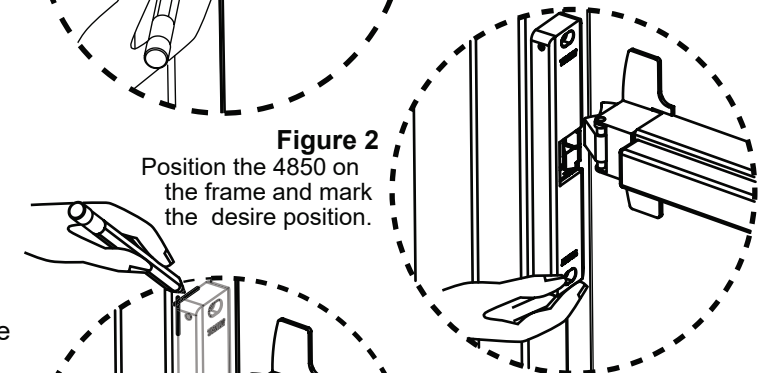

Figure 2
2. Using the marks you just made as your guide, position the 4850 over the mark on the frame. Make sure that the Auxiliary latch rides up properly over the 4850's edge, and is engaged, and that the door is in the fully closed position. See Figure 2